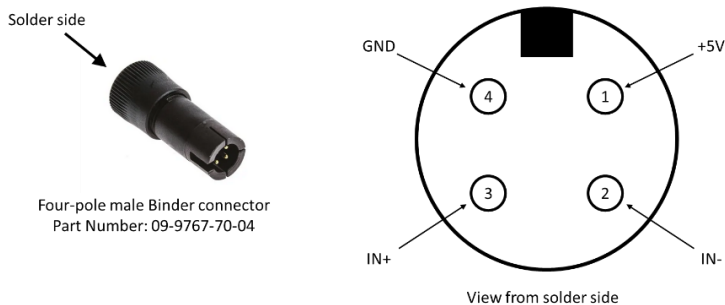

FIG. 7.3: Details on SyncStation+ load cell connector
- Auxiliary input for load cells: in addition to the three generic auxiliary inputs described above there is an additional input dedicated to the connection and to power supply a load cell (signal to be amplified). The connector in question has four contacts and on two of them there is a stabilised 5V supply for the Wheatstone bridge of the load cell. The pinout of the connector is shown in figure 7.3. The channel amplifies the load cell signal with a gain of 205 V/V and filters the low pass signal at 15 Hz.